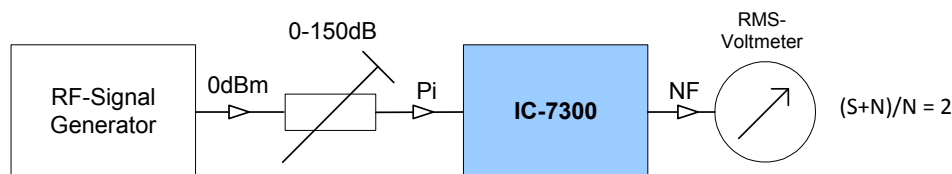

Fig. 1: Measurement setup to determine sensitivity (MDS)
The measurement of the sensitivity (MDS = Minimum Discernible Signal) defines the noise floor of the receiver. If one applies a signal to the receiver input whose level (P_i) raises the receiver noise at the audio output by 3dB, then the power of the signal corresponds to the noise floor, according to $(S+N)/N = 2$. For this measurement one can use a signal generator with 0 dBm output level (**Fig. 1**), 0-150dB step attenuator and an RMS-Voltmeter connected to the AF (NF) output.